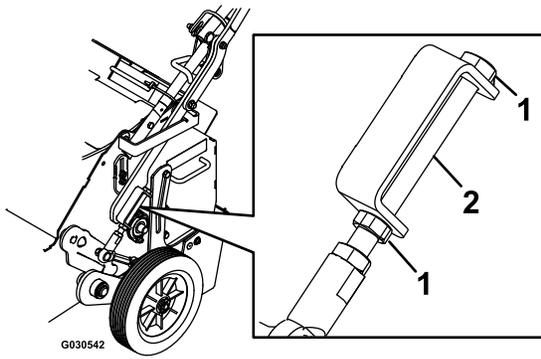

Figure 20
6. Loosen the jam nuts on the adjuster bolt (Figure 20).